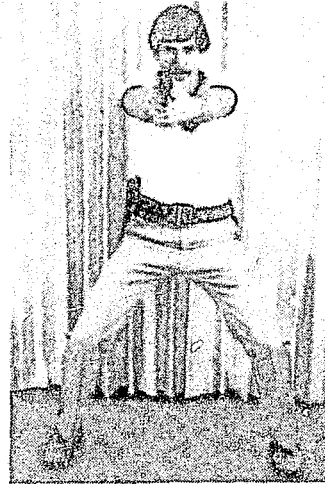

Figure 6-24
1. Foot position (See Figure 6-24)
2. Body position (See Figure 6-24)